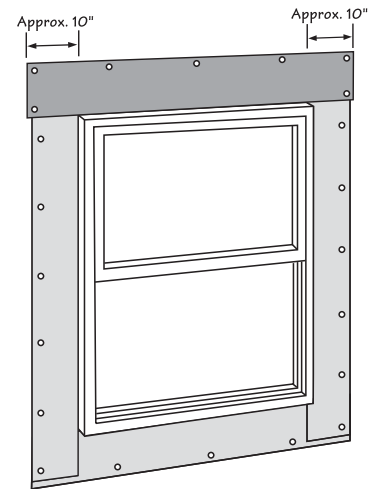

Figure 32.
- Apply a continuous bead of sealant to the nailing flange of the head in a manner that covers the nails and nail slots. Add an additional bead of sealant horizontally, in line with the top of the head flashing. Install the head flashing by pressing the bottom edge of the flashing into the sealant bead previously applied across the mounting flange. Extend the ends of the head flashing approximately 1" (25.4mm) beyond the jamb flashing at each end. Fasten the head flashing into place along the top edge (Fig. 32).